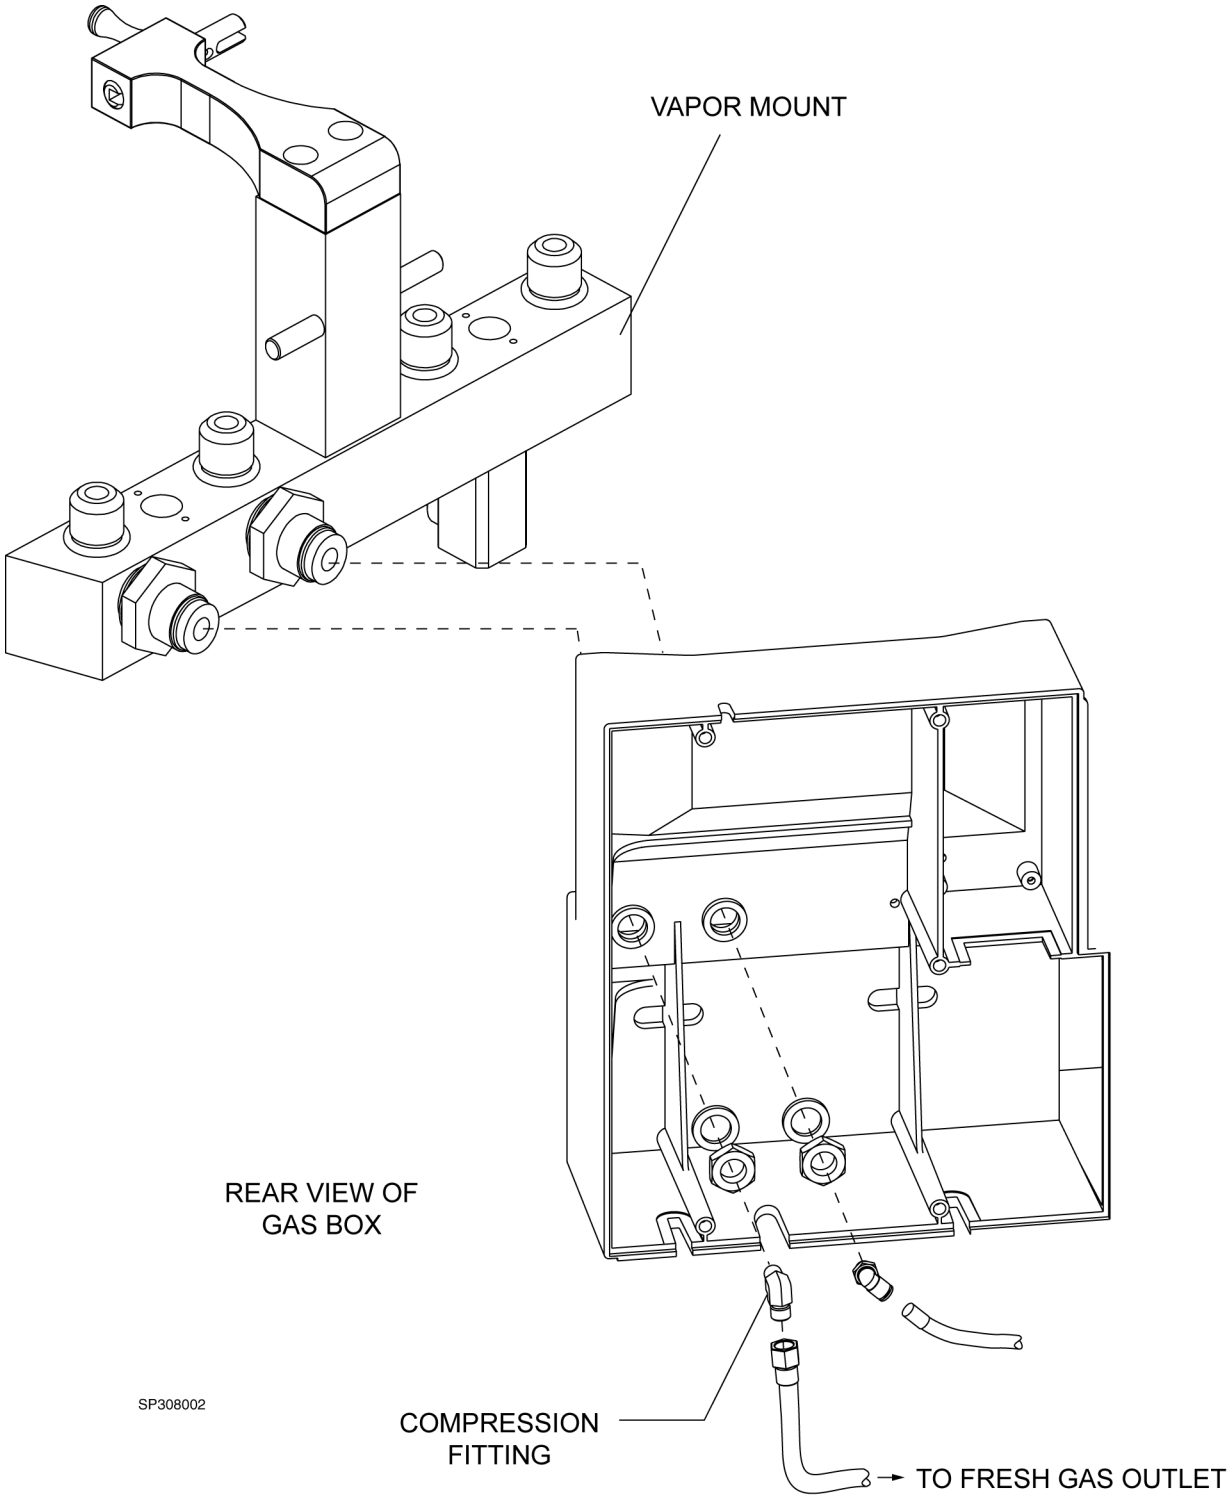

Fig. 2 Disassembly
11. Disconnect both pneumatic lines connected to the rear of the vapor block. See Fig. 2.
14. Clean all residual Loctite from compression fitting after removal. See Fig. 2.